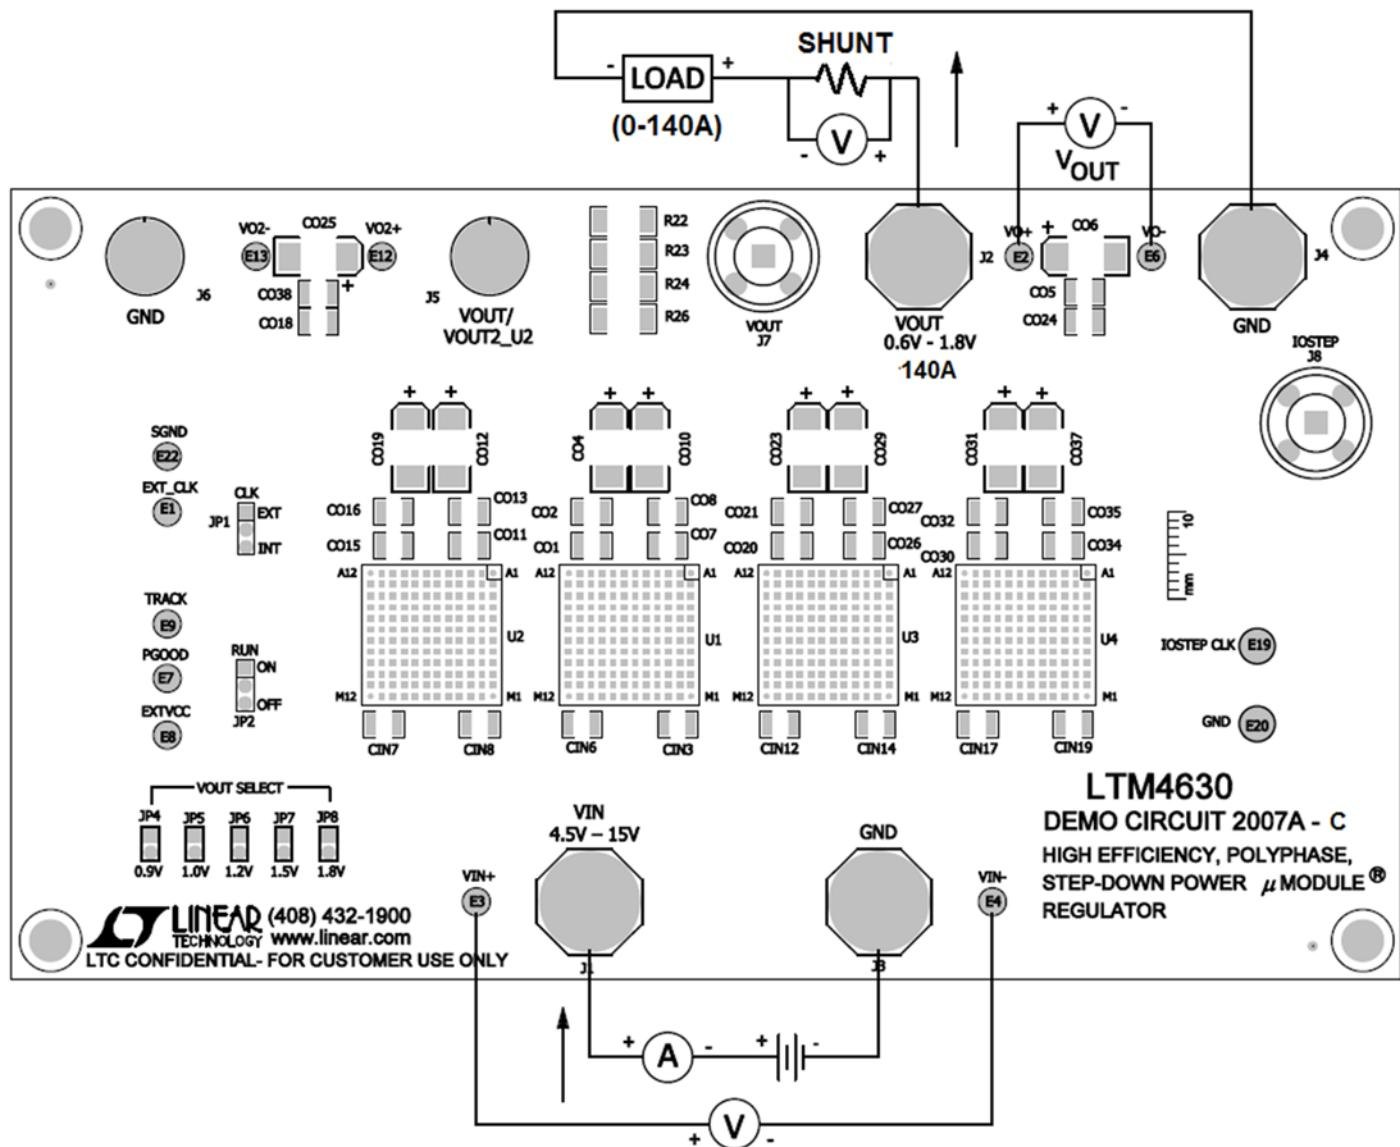

Figure 2. Test Setup of DC2007A-C
Demonstration circuit DC2007A-C is easy to set up to evaluate the performance of PolyPhase operation of the LTM4630EV. Due to the high input/output current, user should select the proper input supply/load/cable which can sustain the full load operation. It's recommended to pull load current from J2 and J4. The load current pulled from J5 and J6 shouldn't exceed 18A. Please refer to Figure 2 for proper measurement setup and follow the procedure below:
2. With power off, connect the input power supply, load and meters as shown in Figure 2. Preset the load to 0A and V_{IN} supply to 12V.